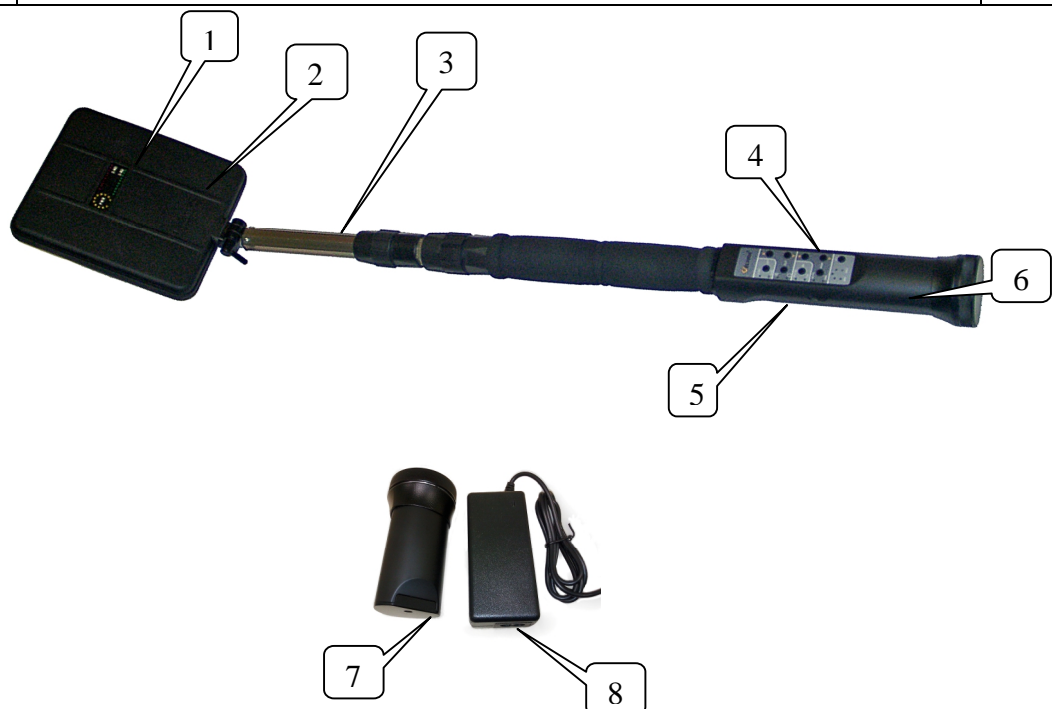

Fig. 1
The device appearance is shown in Fig. 1, where:
4.5. Battery charging of the duplex antenna unit is to be made with the charger included to the delivery set only. Using other chargers is not allowed. For charging it is necessary to unscrew a cover at the edge of NLJD's arm, remove a battery and place it into the container for charging (Fig.1). Connect the container to the charger.